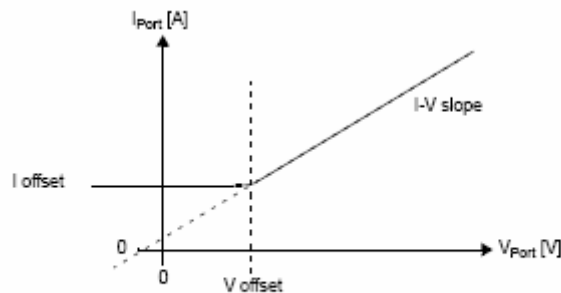

Figure 33-19—Valid PD detection signature offset
**Purpose:** To verify that the DUT presents a valid detection signature while it is requesting power on the power interface (PI).
- [1] IEEE Draft P802.3at™/D3.3: Section 33.3.4, Table 33-14, Figure 33-19
**Discussion:** If a PD will accept power, but is not powered, via the PI then it should present a valid detection signature at the PI between the positive and negative  $V_{Port}$  pins for both pinout Modes such that the attached PSE will properly detect the PD's request for power. The standard defines the signature to be comprised of five characteristics: a valid resistance, capacitance, and inductance; and either a voltage offset or a current offset. The voltage offset limit was specified to allow for the inherent voltage offset for two series diode drops. Similarly, the current limit allows for internal FET leakage. Given the minimum and maximum limits on the defined resistive slope, there are no minimum bounds for the offset components as a maximum current implies a minimum voltage, and vice versa. Figure 33-19, reproduced below, illustrates the signature resistance and voltage offsets.